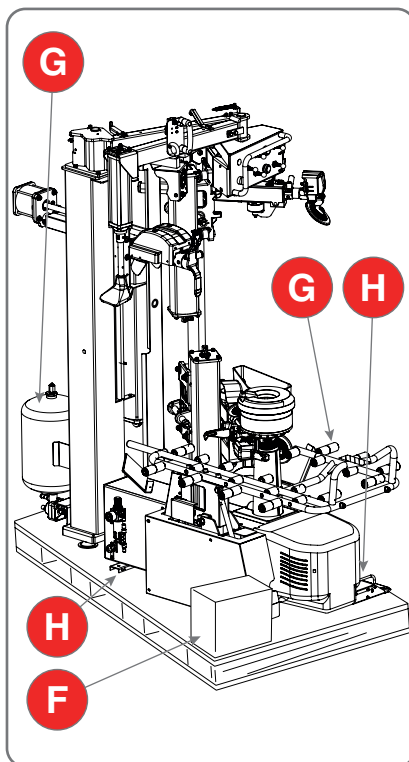

Fig. 3.1
Remove the upper part of the cardboard packaging and make sure the machine has not been damaged during transport; identify the points (H - Fig.3.1) for fixing to the pallet.
- remove the screws from the fixing foot (H - Fig.3.1);